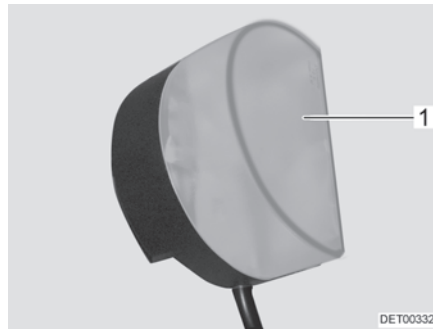

Fig. 192 Wardrobe light
- Press the light covering (Fig. 192,1) lightly together and remove it.